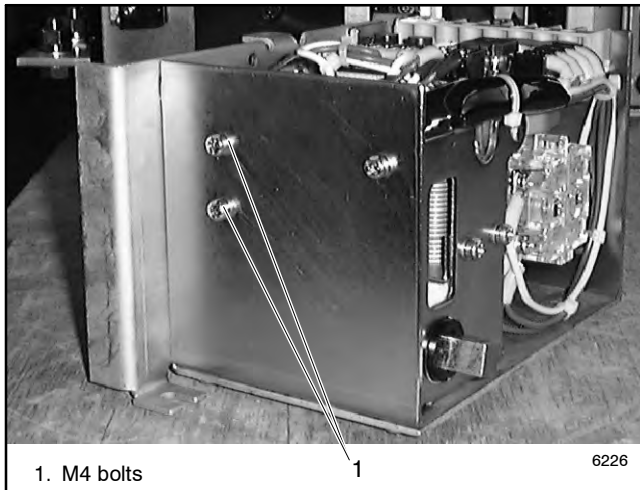

Figure 7-18 Select Coil Assembly Bolts
2. Remove two M4 bolts shown in Figure 7-18 and remove the select coil assembly.